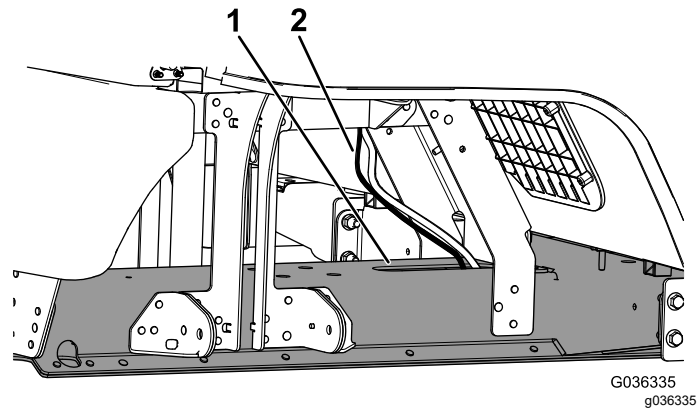

Figure 11
3. Route the kit wire harness through the opening in the top of the frame channel (Figure 11).